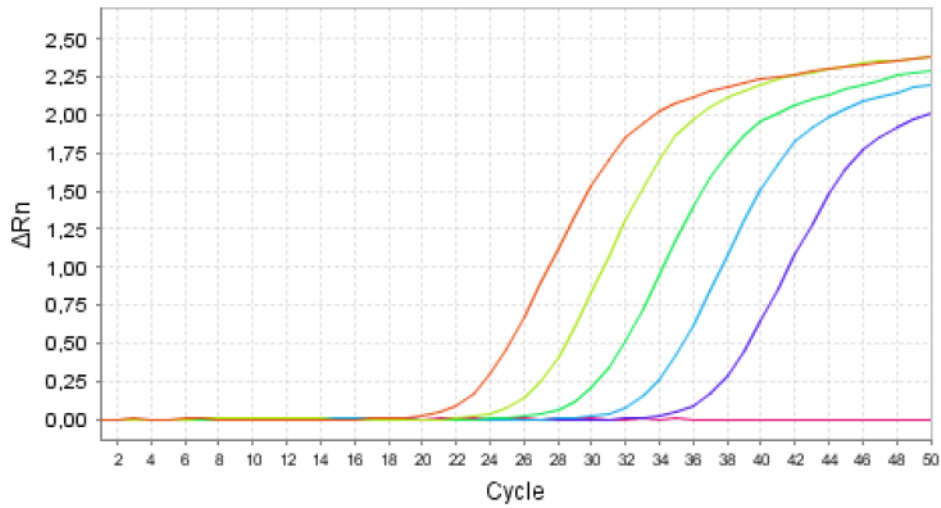
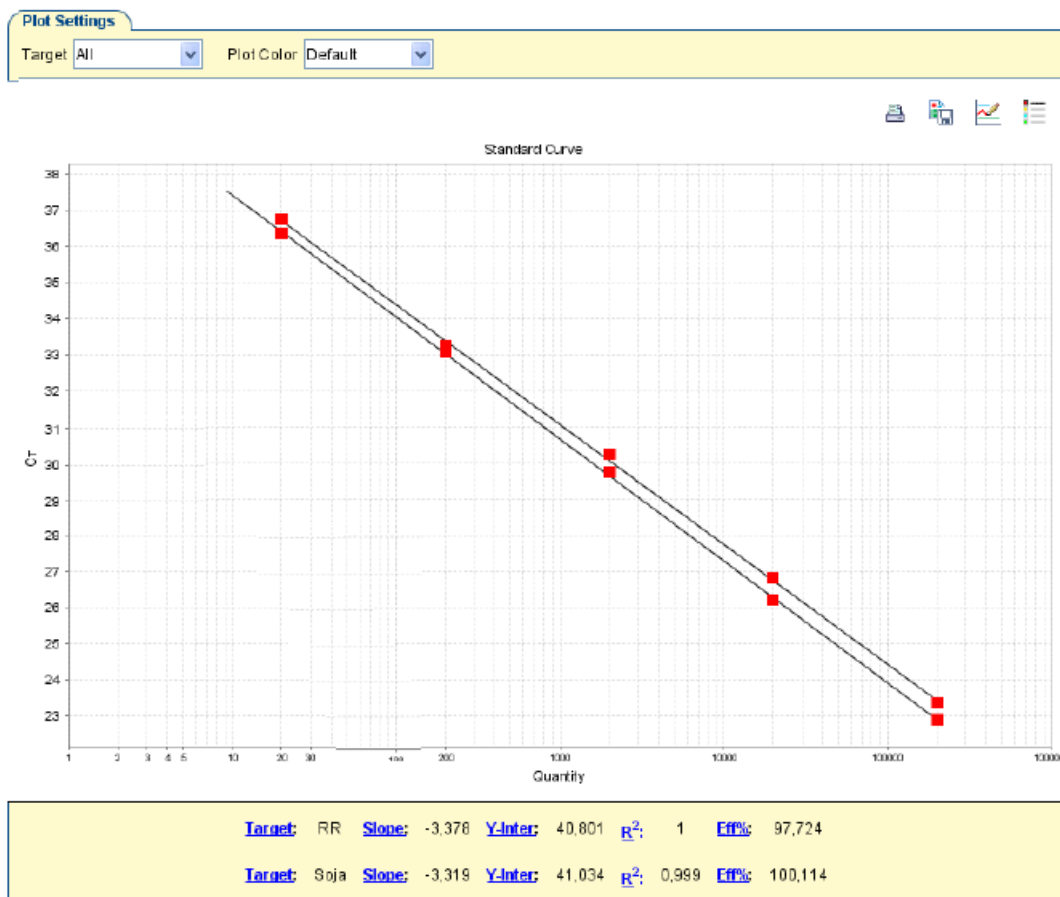

Figure 3 Example amplification curves for Roundup Ready™ Soya Standard dilution series.
Figure 4 Example standard curves for total soya and Roundup Ready™ soybean using Roundup Ready™ Soya Standard dilution series.
1. View the amplification plots for all reactions to make sure that they appear normal. See Figure 3 and Figure 4 for example data.
Roundup Ready™ Soya Standard dilution series	Amplification should be detected in all five dilutions for both Roundup Ready™ soybean and lectin PCR series (see Figure 3). The standard curves derived from the dilution series should meet the following requirements (see Figure 4): <ul style="list-style-type: none"> <li>• The efficiency of the curve should be 86–110% (slope between –3.7 and –3.1).</li> <li>• The correlation coefficient (R2) should be &gt;0.98.</li> </ul>
- Calculate the relative quantity of Roundup Ready™ soybean and lectin with respect to the Roundup Ready™ Soya Standard in each PCR (Figure 4).